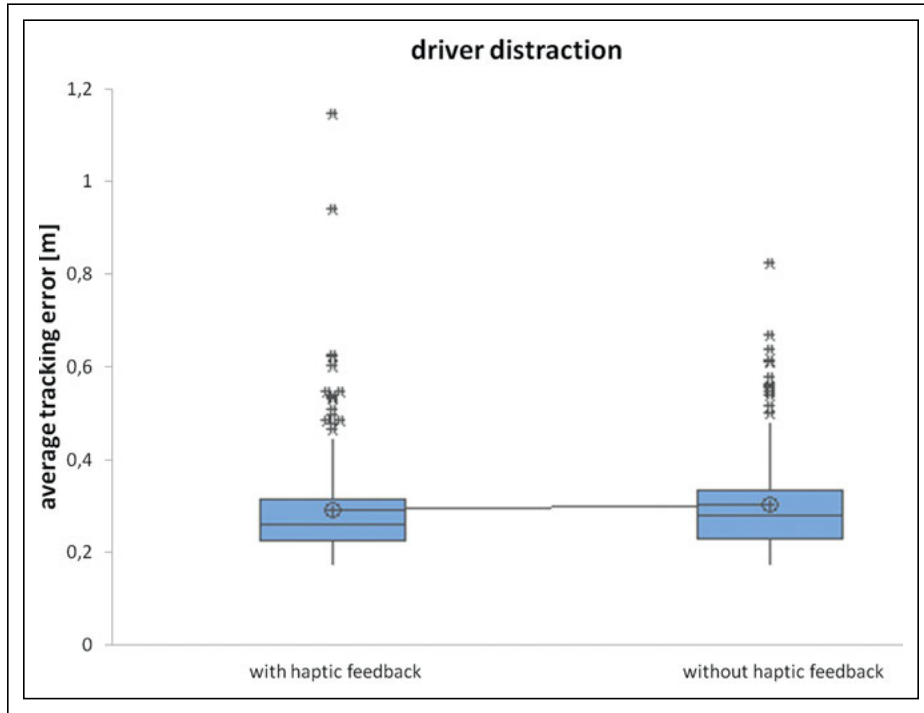

Fig. 2: Driving on a safe trajectory: Results are shown with haptic feedback (left) and without haptic feedback (right).
- There is a certain scattering in the control over the trajectory. Unfortunately, a few clear outliers among the test drivers watered down the results to some extent. However, as a tendency, it is still visible that haptic feedback reduces the amount of deviation from a safe trajectory (Fig. 2).